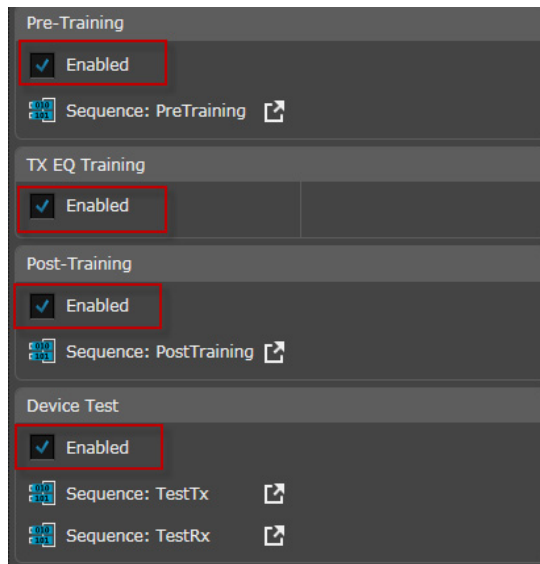

Figure 16 Different states of TX Equalization Training
- In all different states of the TX Equalization Training, there is an option **Enabled** available as shown in Figure 16. If you want to skip the respective training state, clear the check box.